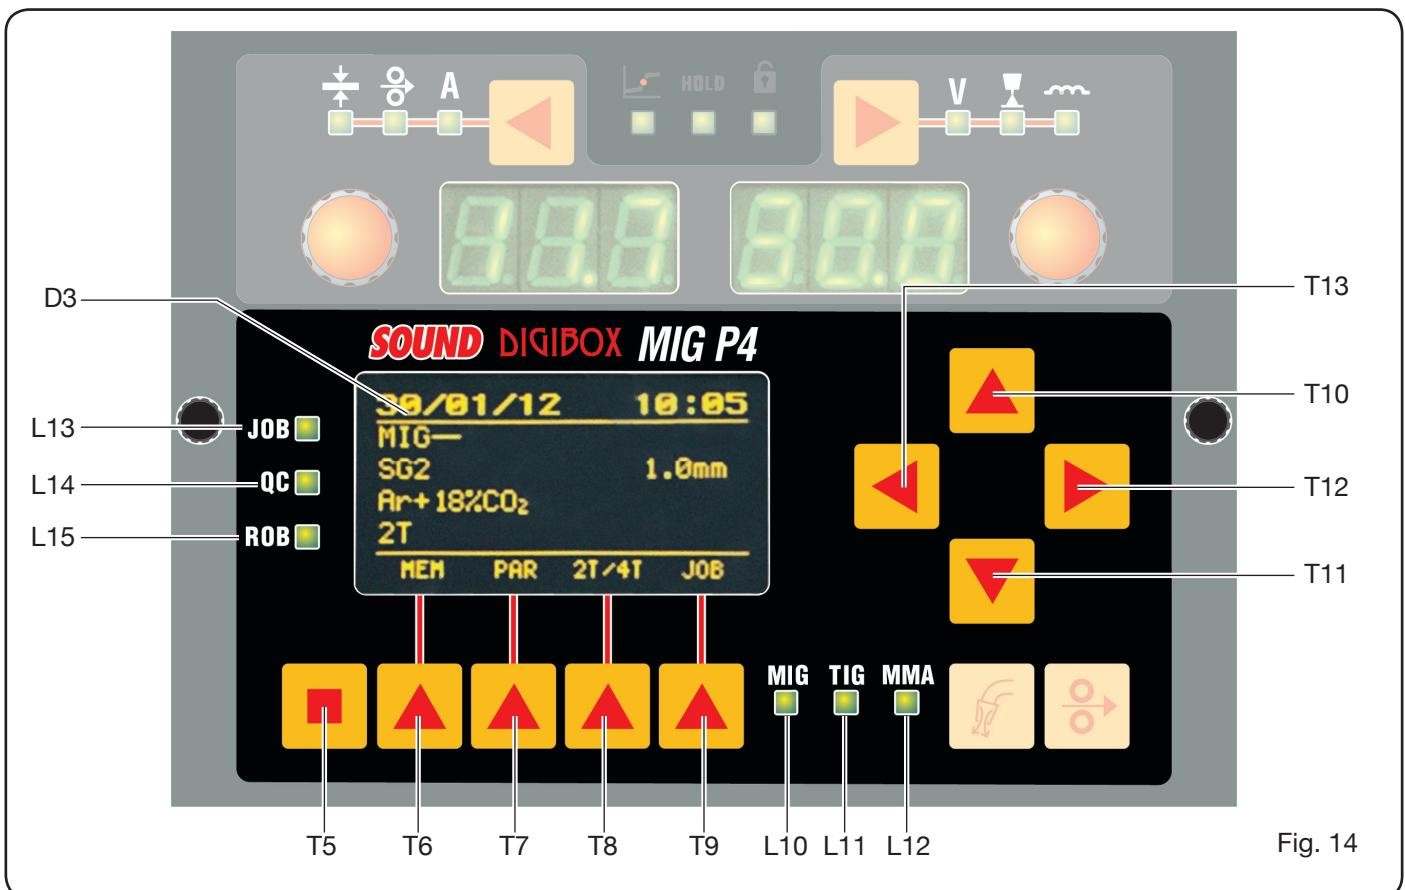

Fig. 14
The control panel consists of a **control area** (Fig. 13) and a **settings area** (Fig. 14).
6.2 SETTINGS PANEL (FIG. 14).